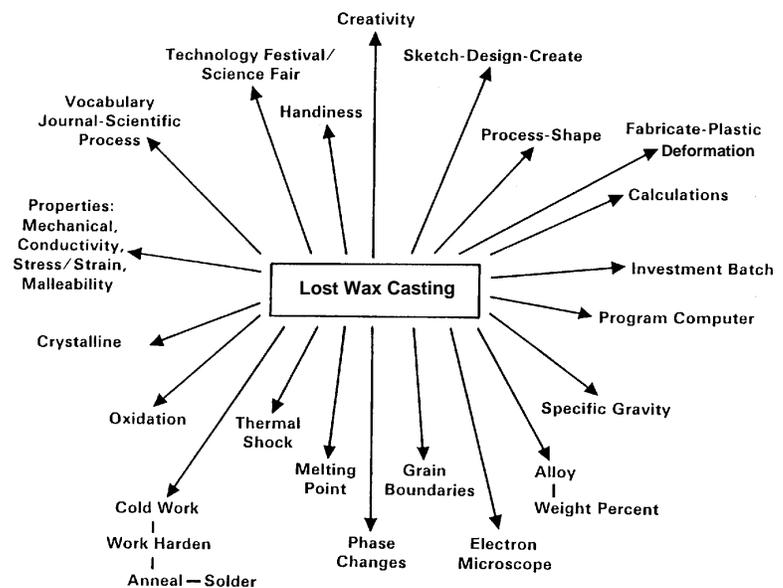

Figure 5.10. Lost Wax Casting
2. The instructor should allow the student 1-2 weeks of class time to complete the casting. Model design or student creativity will lengthen the time required to accomplish this lab (see Figure 5.10 for topics and activities related to lost wax casting.)